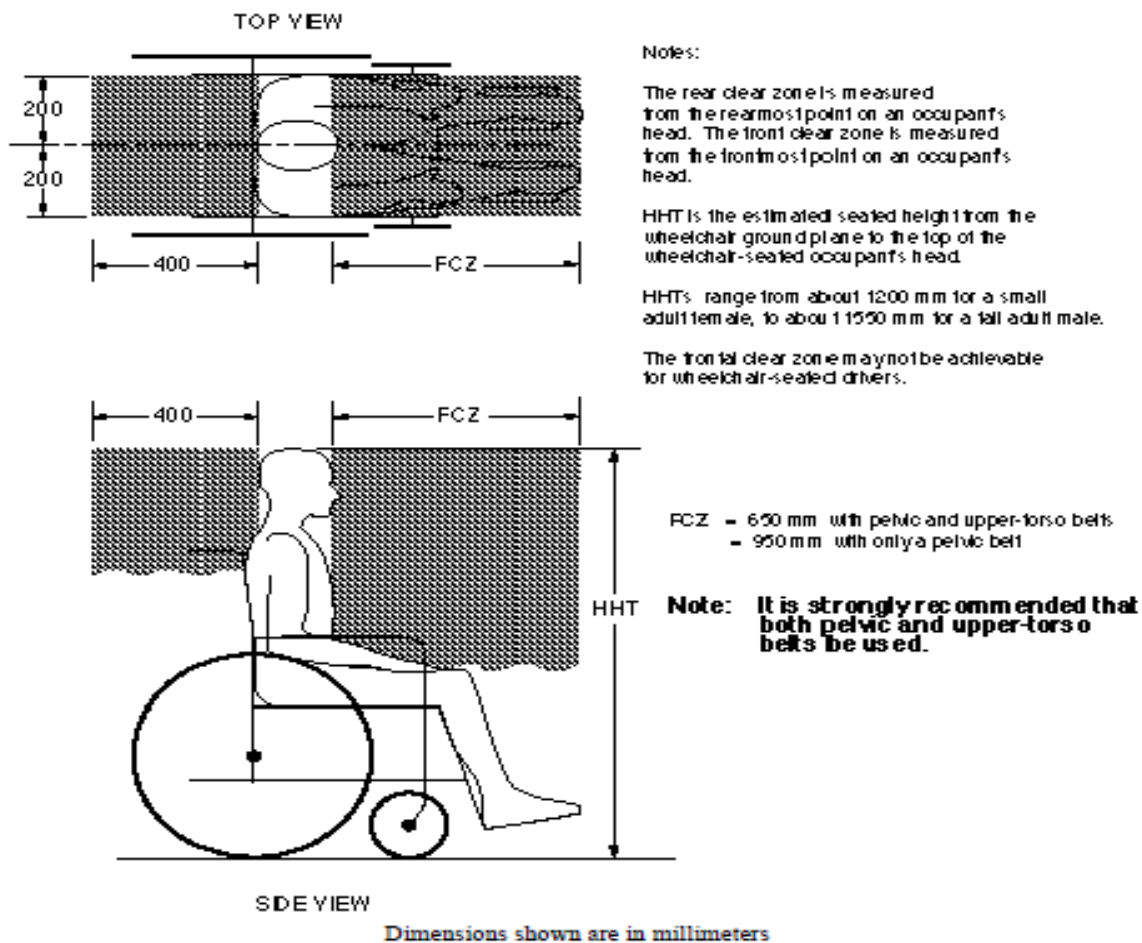

Figure 10 - Clear zones for wheelchair-seated occupants.
- 11) Recommended clear zones are in front and behind the chair user, as shown in figure 10. Frontal clear zones need to be larger when upper torso belts are not used.